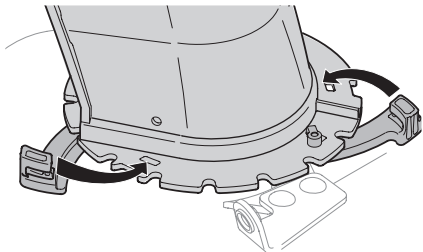

Figure 2-14
- 2. Close flange keepers to secure chute assembly to chute base. Flange keepers will click into place when properly secure. See Figure 2-14.